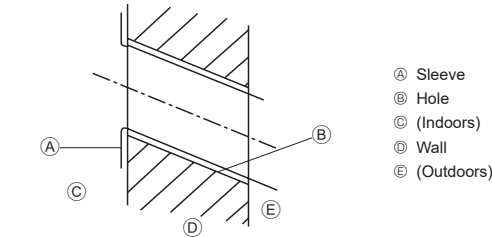

Fig. 3-3
- ② Indoor unit
- ③ Bottom left rear pipe hole (ø75 mm, 2-15/16 in.)
- ④ Bottom right rear pipe hole (ø75 mm, 2-15/16 in.)
- ⑤ Bottom right rear condit cable hole (ø75 mm, 2-15/16 in.)
- ⑥ Knockout hole for left rear hole (105 × 300 mm, 3-15/16 × 11-13/16 in.)
- ⑦ Bolt hole (4-ø9 mm, 11/32 in. hole)
- ⑧ Tapping hole (6-ø4.3 mm, 3/16 in. hole)
- ⑨ Hole centre
- ⑩ Align the scale with the line.
- ⑪ Insert scale.
3.2.2. Drilling the piping hole (Fig. 3-3)